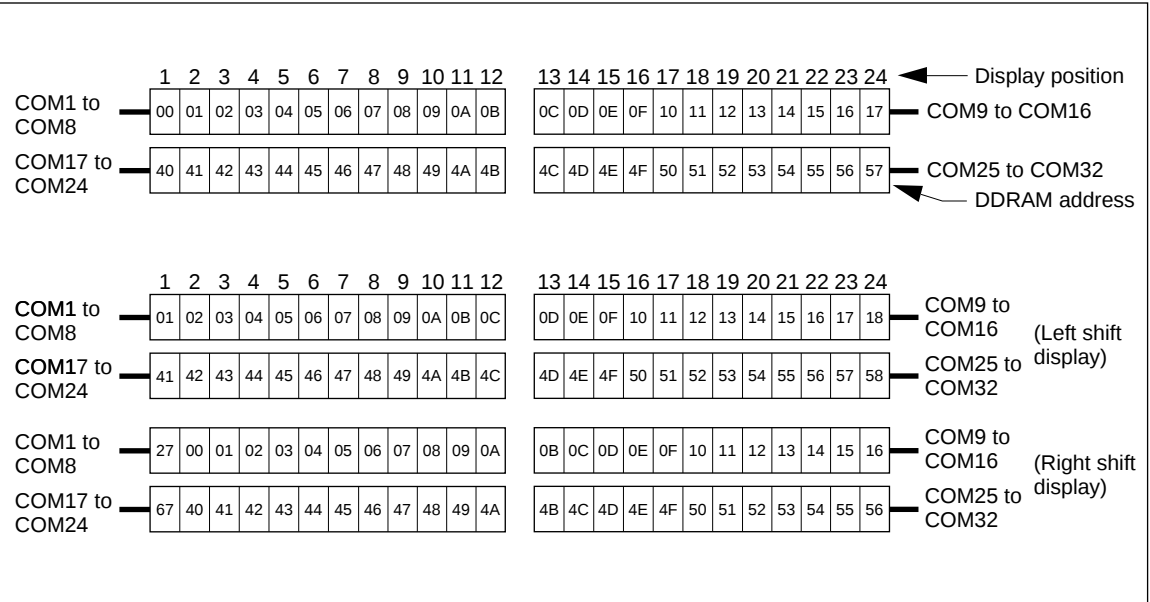

Figure 5 2-Line by 24-Character Display (5-Dot Font Width)
- Case 1: The first line is displayed from COM1 to COM16, and the second line is displayed from COM17 to COM32. Note that the last address of the first line and the first address of the second line are not consecutive. Figure 5 shows an example where a 5-dot font-width 24×2 -line display is performed using one HD66712. Here,